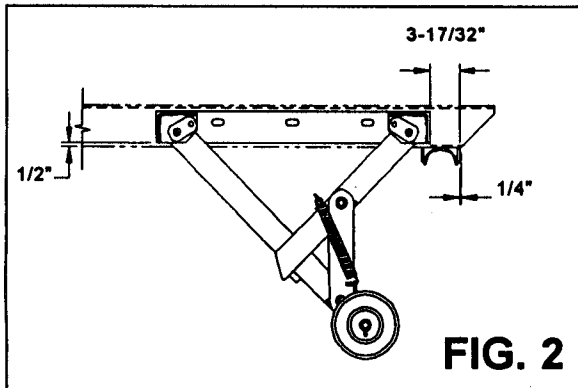

FIG. 2
3. Measure the distance from the bottom of the truck frame to the ground (NOTE: This should be performed on a level surface). Based this measurement and the dimensions in Fig. 1, the vertical channel [P/N: 63H94] may need to be modified in length to meet the Office of Motor Carrier Safety (OMCS) regulations. Regulation 393.86 requires that no bumper be located more than 30" off the ground when the truck is empty, and the end of the bumper should not be located more than 24" from the extreme rear of the vehicle, including truck bodies (See Fig. 2). Once the length has been determined for the vertical channels, weld them to the truck frame (See additional notes on next page).
- Position drop down bumper on the longsills of the sub-frame (See Fig. 2 & 3). The mount brackets [Part No. 51H17] need to be positioned correctly to allow for sufficient room for bumper cradles [Part No. 51H19] (See Fig.2). Weld mount brackets onto the longsills of the sub-frame.
- Position bumper cradles [Part No. 51H19] on the longsills of the sub-frame. Check bumper cradles for squareness with respect to each other. The bumper tube [Part No.51H16] should come to rest within the bumper cradles when the container rests on the ground (See Fig. 2 & 3). Weld bumper cradles into place on longsills.
3. Weld the front [62H87] and rear [62H88] brackets to the support bars. Be sure to maintain the dimensions as indicated so that the bumper folds properly (See Fig. 2 & 3).